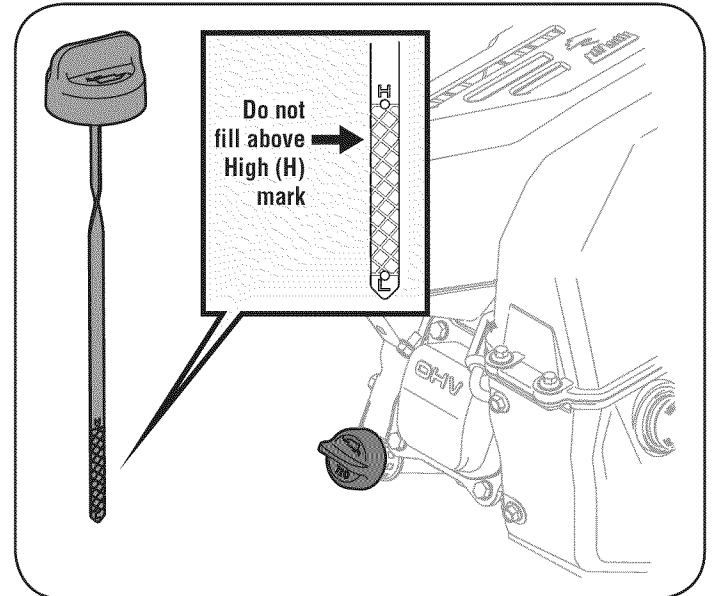

Figure 18
3. Remove the oil filler cap/dipstick. If level is low, slowly add oil until oil level registers between high (H) and low (L). See Figure 18.